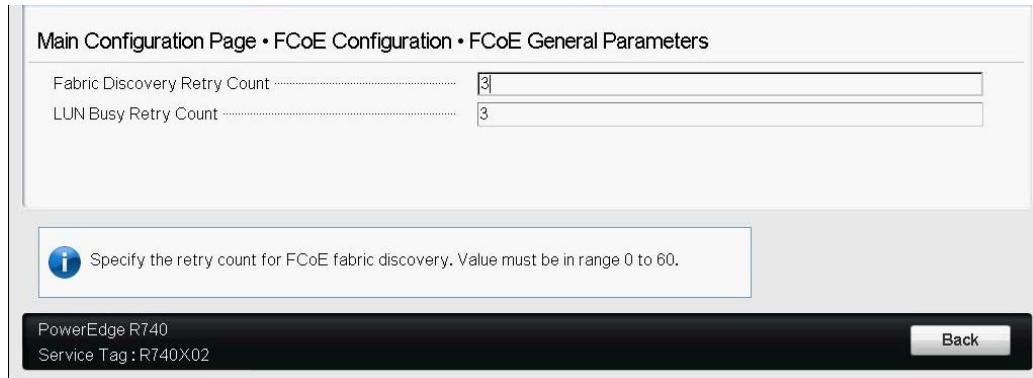

Figure 10-5. System Setup: FCoE General Parameters
3. On the FCoE General Parameters page(Figure 10-5), press the UP ARROW and DOWN ARROW keys to select a parameter, and then press ENTER to select and input the following values: